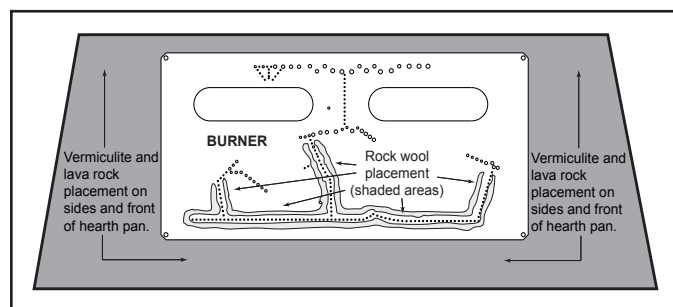

Figure 14.2 Placement of Embers
- Place dime-size pieces of Glowing Embers® just in front of the port trail, but not on or in between the ports (see Figure 14.2). Care should be taken so that the ports are not covered. Failure to follow this procedure will likely cause lighting and sooting problems.